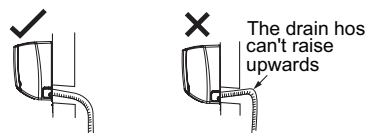

Fig.25
- (1) The through-wall height of drain hose shouldn't be higher than the outlet pipe hole of indoor unit. (As show in Fig.25)